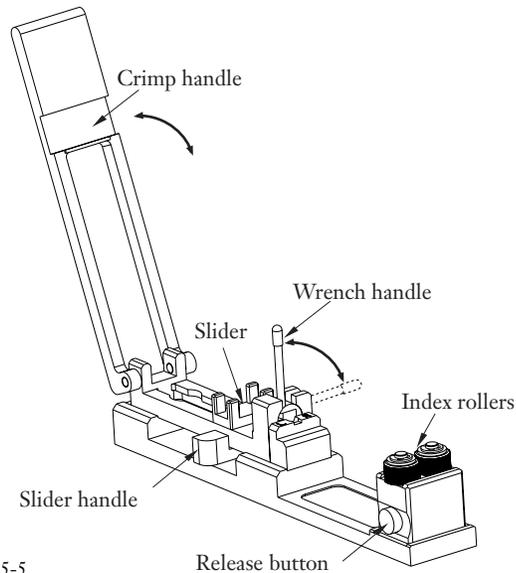

Figure 5-5
5.3-2 Flip the crimp handle open and rotate the wrench so that the handle is up (Figure 5-5).